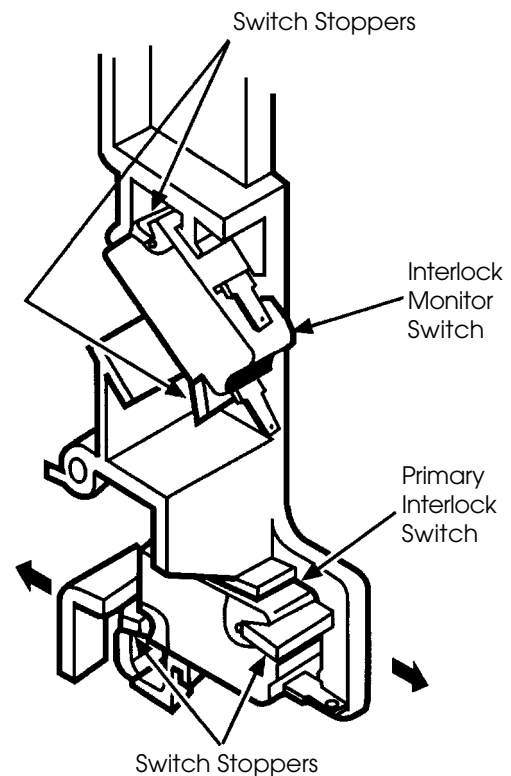

Figure 10-b
- (2) Remove 2 screws securing the lever stopper.
- (3) Push the door sensing switch upward while pressing adjacent upper switch stopper of lever stopper and lower switch stopper down (Figure 10-a).
- (4) Then remove it by lightly pressing the switch toward you (Figure 10-a).
- (5) Make necessary adjustments or replacements of the door sensing switch by reversing step (3) and check microwave energy leakage according to "1. ADJUSTMENT PROCEDURES" on page 1, after it is replaced with new one, and check proper operation of it according to "CHECKOUT PROCEDURE FOR SWITCHES" on page 6.
(Figure 10-b)